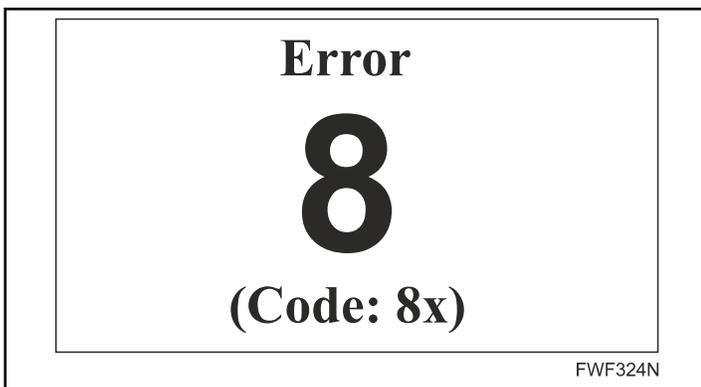

Figure 16
- In case of an Pressure (air flow) switch failure or non-permitted change of parameters of the machine external exhaust system, the warning message 8 (Figure 16) is displayed.